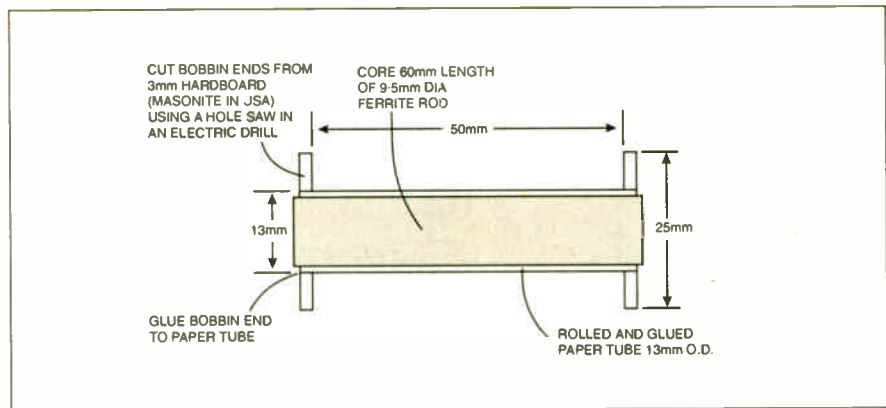

Fig.4. Inductor bobbin construction details.
Bobbin construction is illustrated in Fig.4. Winding details for the inductor values likely to be encountered are given in Table 4.
- L1 9.5mm (3/8in.) dia. ferrite rod, length 63mm (2½in.); card, hardboard and glue for bobbin. Enamelled copper wire: Crossover only – 100 turns 20 s.w.g. (19 a.w.g.), Crossover and Filter – 200 turns 22 s.w.g. (21 a.w.g.). See Fig.4 and text